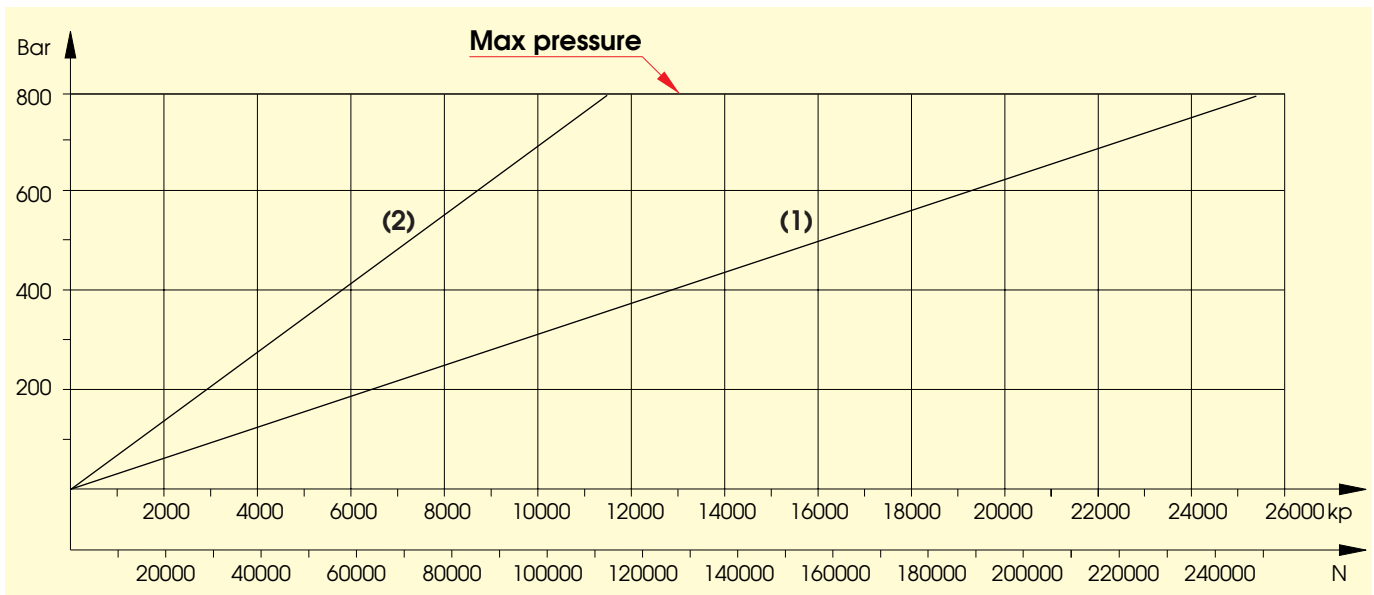

Fig 07-25
The effective area of the piston is $32,2 \text{ cm}^2$ which gives the following relation between pressure and force (using tool 2V83E0186), see Fig 07-25, (1)
In the previous tool (marked with 3V83E0061) the effective area of the piston is $14,42 \text{ cm}^2$. The relation between pressure and force is shown in Fig 07-25, (2).